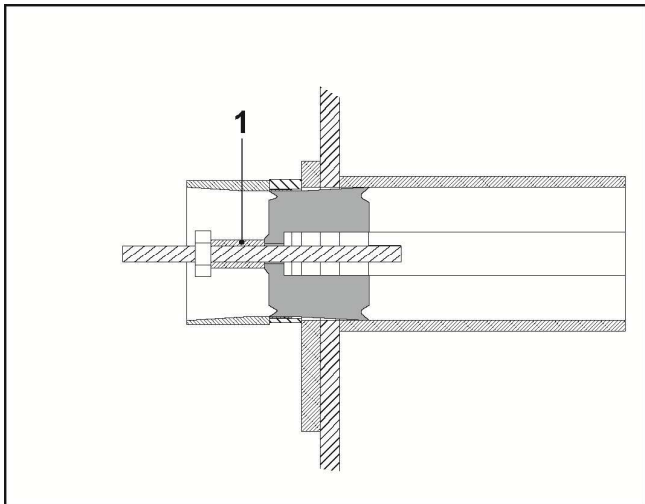

FIG.56
- To make the piston reach the piston rod (FIG. 56/57-REF. 1) apply the spacers and keep tightening the nut.